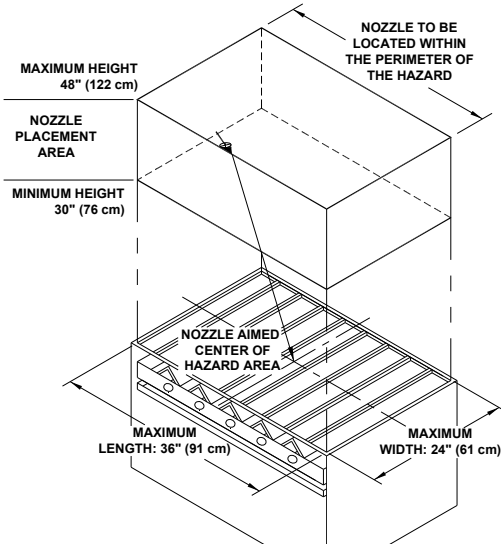

Figure 3-20.
The **Model N-1HP** nozzle is a one (1) flow point nozzle that can protect a radiant charbroiler with a cooking area of 36" (91 cm) wide by 24" (61 cm) deep. The nozzle must be located 30" (76 cm) to 48" (122 cm) above the cooking surface and positioned anywhere over the cooking area. The nozzle must be aimed at the center of the cooking area. See **Figure 3-20**.